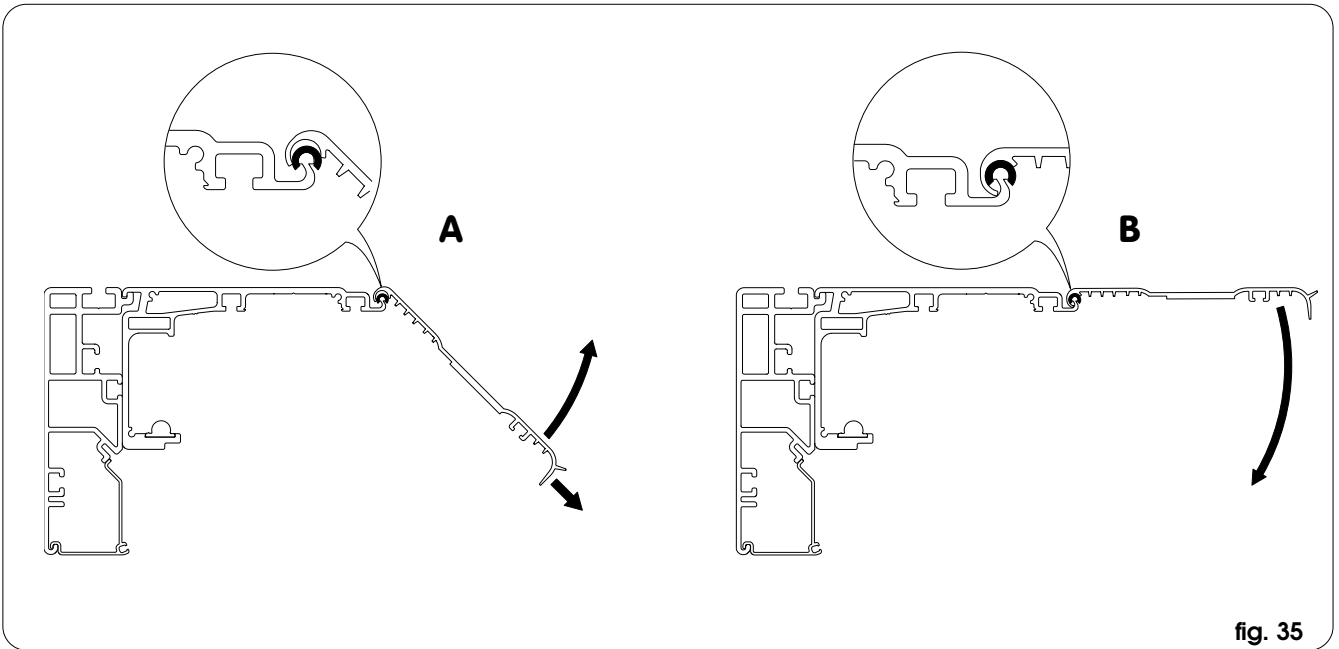

fig. 35
- Rest the housing on the spacers and, pulling it as in fig. 35 ref. A, rotate it upward until correctly attached (fig. 35 ref. B), and then close it.